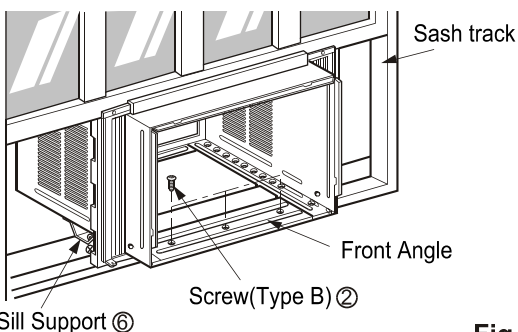

Fig. 5
6. The cabinet should be installed with a very slight tilt (about 1/2") downward toward the outside (See Fig. 5). Adjust the bolt and the nut of Sill Support ⑥ for balancing the cabinet. (Fig. 5)
7. Attach the cabinet to the window stool by driving the screws ② [Type B: Length 16mm (5/8 inch) and below.] through the front angle into window stool. (Fig. 5)
8. Pull each Frame Curtain ⑤ to each window sash track, and repeat step 2. (Fig. 5)